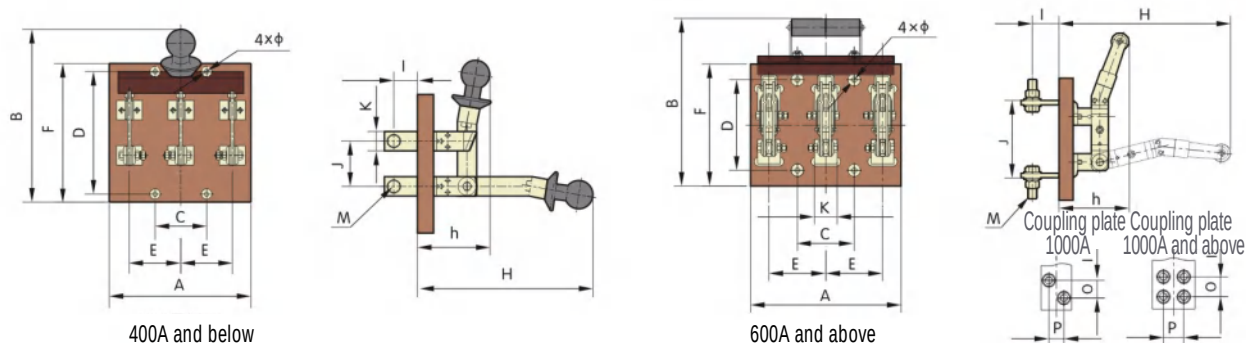

Figure 2
5.2HD11 board rear wiring (see Figure 2, Table 3).